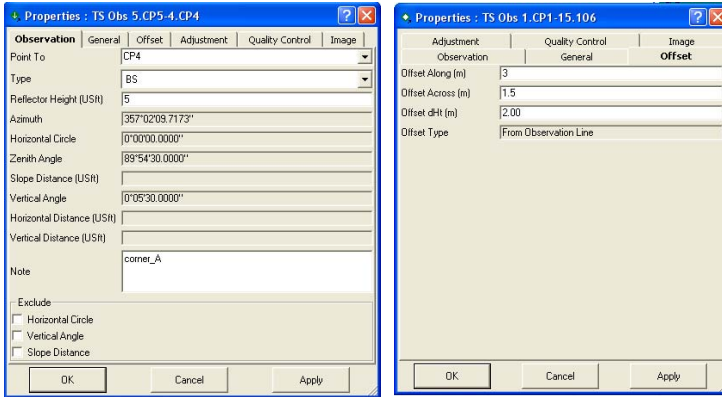

Figure 5-106. Observation and Offset Properties
4. View or edit *Offset* tab fields for editing offsets and selecting the offset Type (Figure 5-106).
5. View or edit *Adjustment* tab fields for setting the *AutoReject* option and viewing the status and residuals for the observation (Figure 5-106).
6. The *Quality Control* tab contains informational text on selected observations (marked in red on the views) that did not pass some of the quality control checks (Figure 5-106).